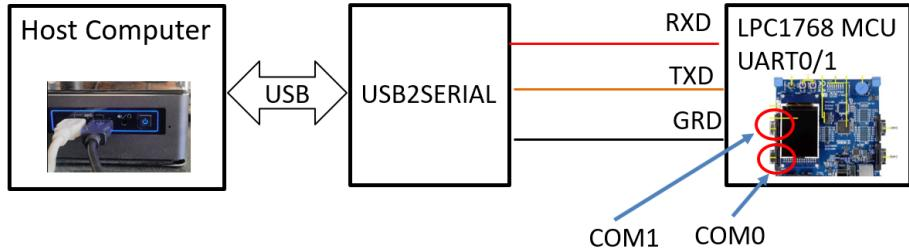

Figure 5.1: UART and Host Computer Connection
- `UART0_IRQ/`: This directory contains a stand-alone uVision application to show how to echo a key press. It uses the board UART0 to perform serial communication with the host computer by interrupts. The keyboard is connected to the host computer. The host computer connects to the board COM0 through an USB-to-Serial adapter. The COM0 port connects to the board UART0 (See Figure 5.1). The application captures the keyboard input character transmitted by the host computer. It then uses interrupt to transmit a string from the UART0 to the host computer where the string contains the keyboard character the board UART0 received.
The second part is to add UART interrupt services to enable the RTX system console. The microcontroller communicates with the system console using UART0 by interrupts. There are two RS-232 ports : COM0 and COM1 on the board which connects to the UART0 and UART1 respectively on the microcontroller board. Each UART is connected to the microprocessor address, data and control buses on one side, and to the incoming (keyboard) and outgoing (character display) serial data link on the other side (See Figure 5.1).